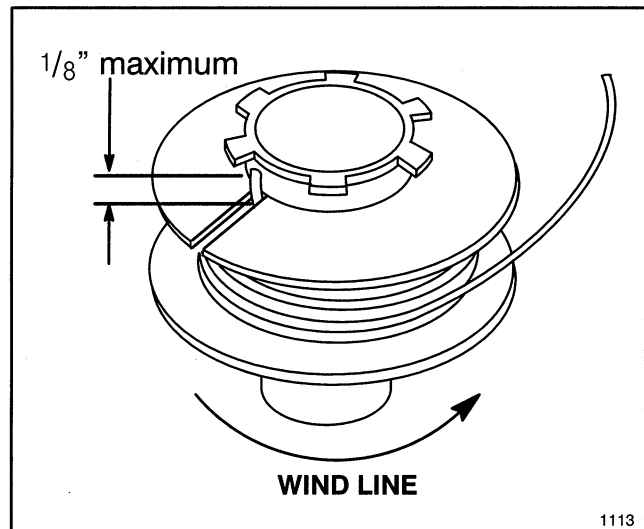

Figure 22
1. Hook one end of line into slot on spool, **allowing no more than 1/8" to protrude. Push end of line all the way to the inner end of slot.** Wind line in direction of arrow on spool in level rows between spool flanges (Fig. 22).